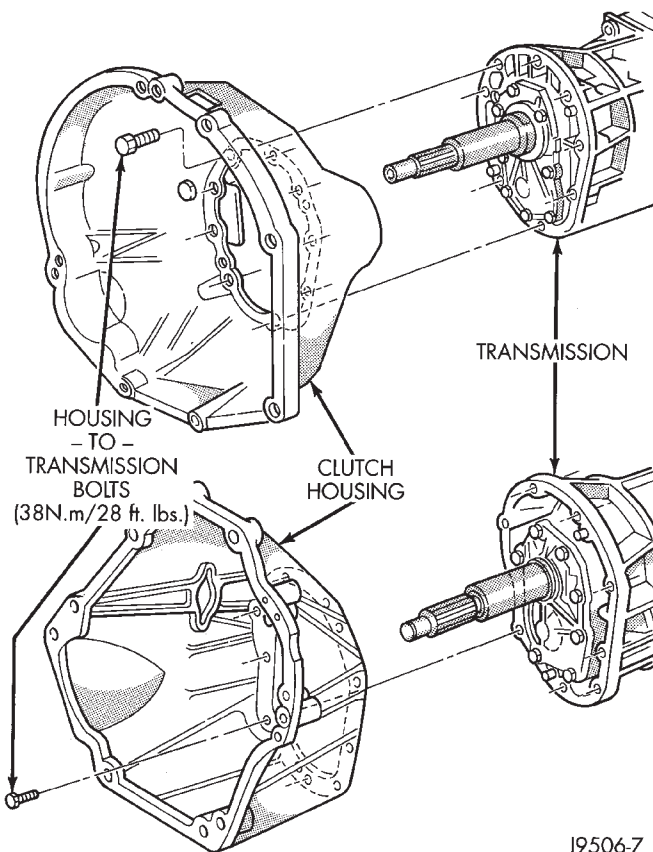

Fig. 10 Clutch Housing
(24) Remove clutch housing brace rod.
(25) Remove clutch housing-to-engine bolts.
(26) Pull transmission jack rearward until input shaft clears clutch. Then slide transmission out from under vehicle.
(27) Remove clutch release bearing, release fork, and retainer clip.
(28) Remove clutch housing from transmission (Fig. 10).
(1) Install clutch housing on transmission. Tighten housing bolts to 37 N·m (27 ft. lbs.) torque.
(2) Lubricate contact surfaces of release fork pivot ball stud and release fork with high temp grease.
(3) Install release bearing, fork, and retainer clip.
(4) Position and secure transmission on transmission jack.
(5) Lightly lubricate pilot bearing and transmission input shaft splines with Mopar® high temp grease.
(6) Raise transmission and align transmission input shaft and clutch disc splines. Then slide transmission into place.
(7) Install and tighten clutch housing-to-engine bolts to 38 N·m (28 ft. lbs.) torque (Fig. 10). **Be sure the housing is properly seated on engine block before tightening bolts.**